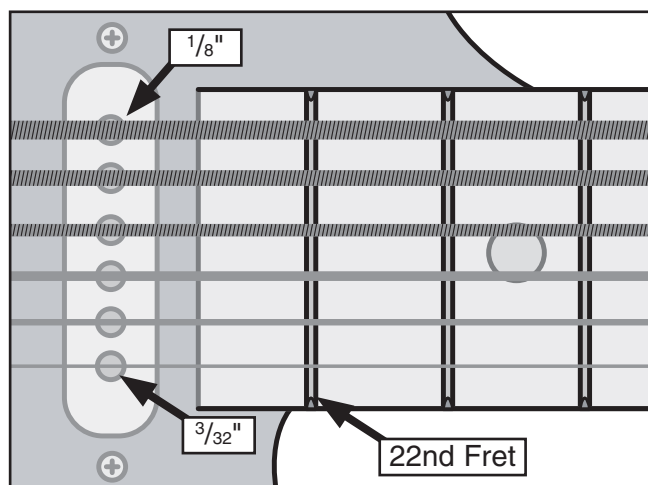

Figure 35. String heights over the pickup.
1. Measure the height of the 1st and 6th strings at the pickup while the strings are “fretted” at the 22nd fret (**Figure 35**).